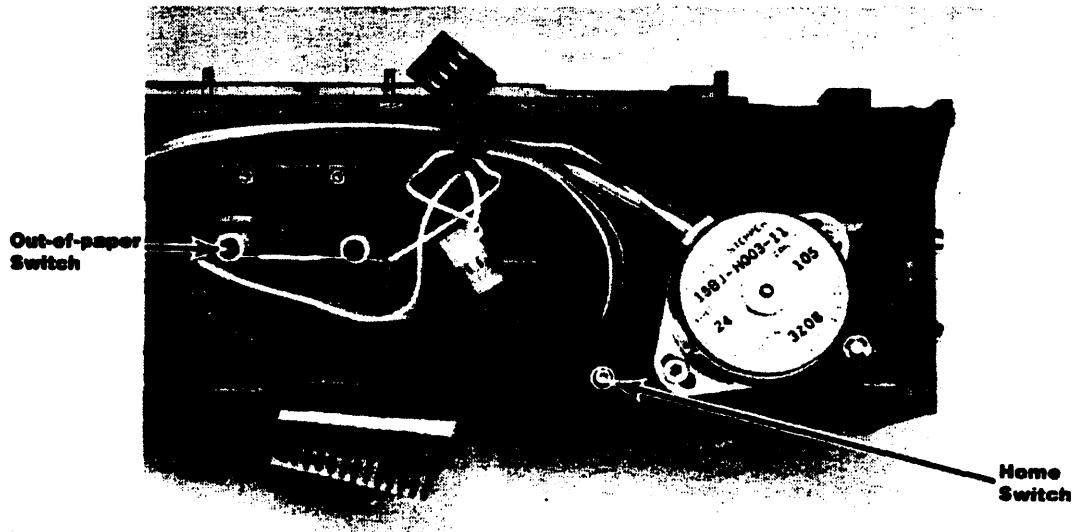

Figure 6-22. Home Switch and Out-Of-Paper Switch Locations
1. Locate the home switch shown in figure 6-22 and remove the T6 screw that fastens the switch to the mechanism frame.
1. Locate the out-of-paper switch shown in figure 6-22 and loosen the two T6 screws that hold the switch on its bracket.